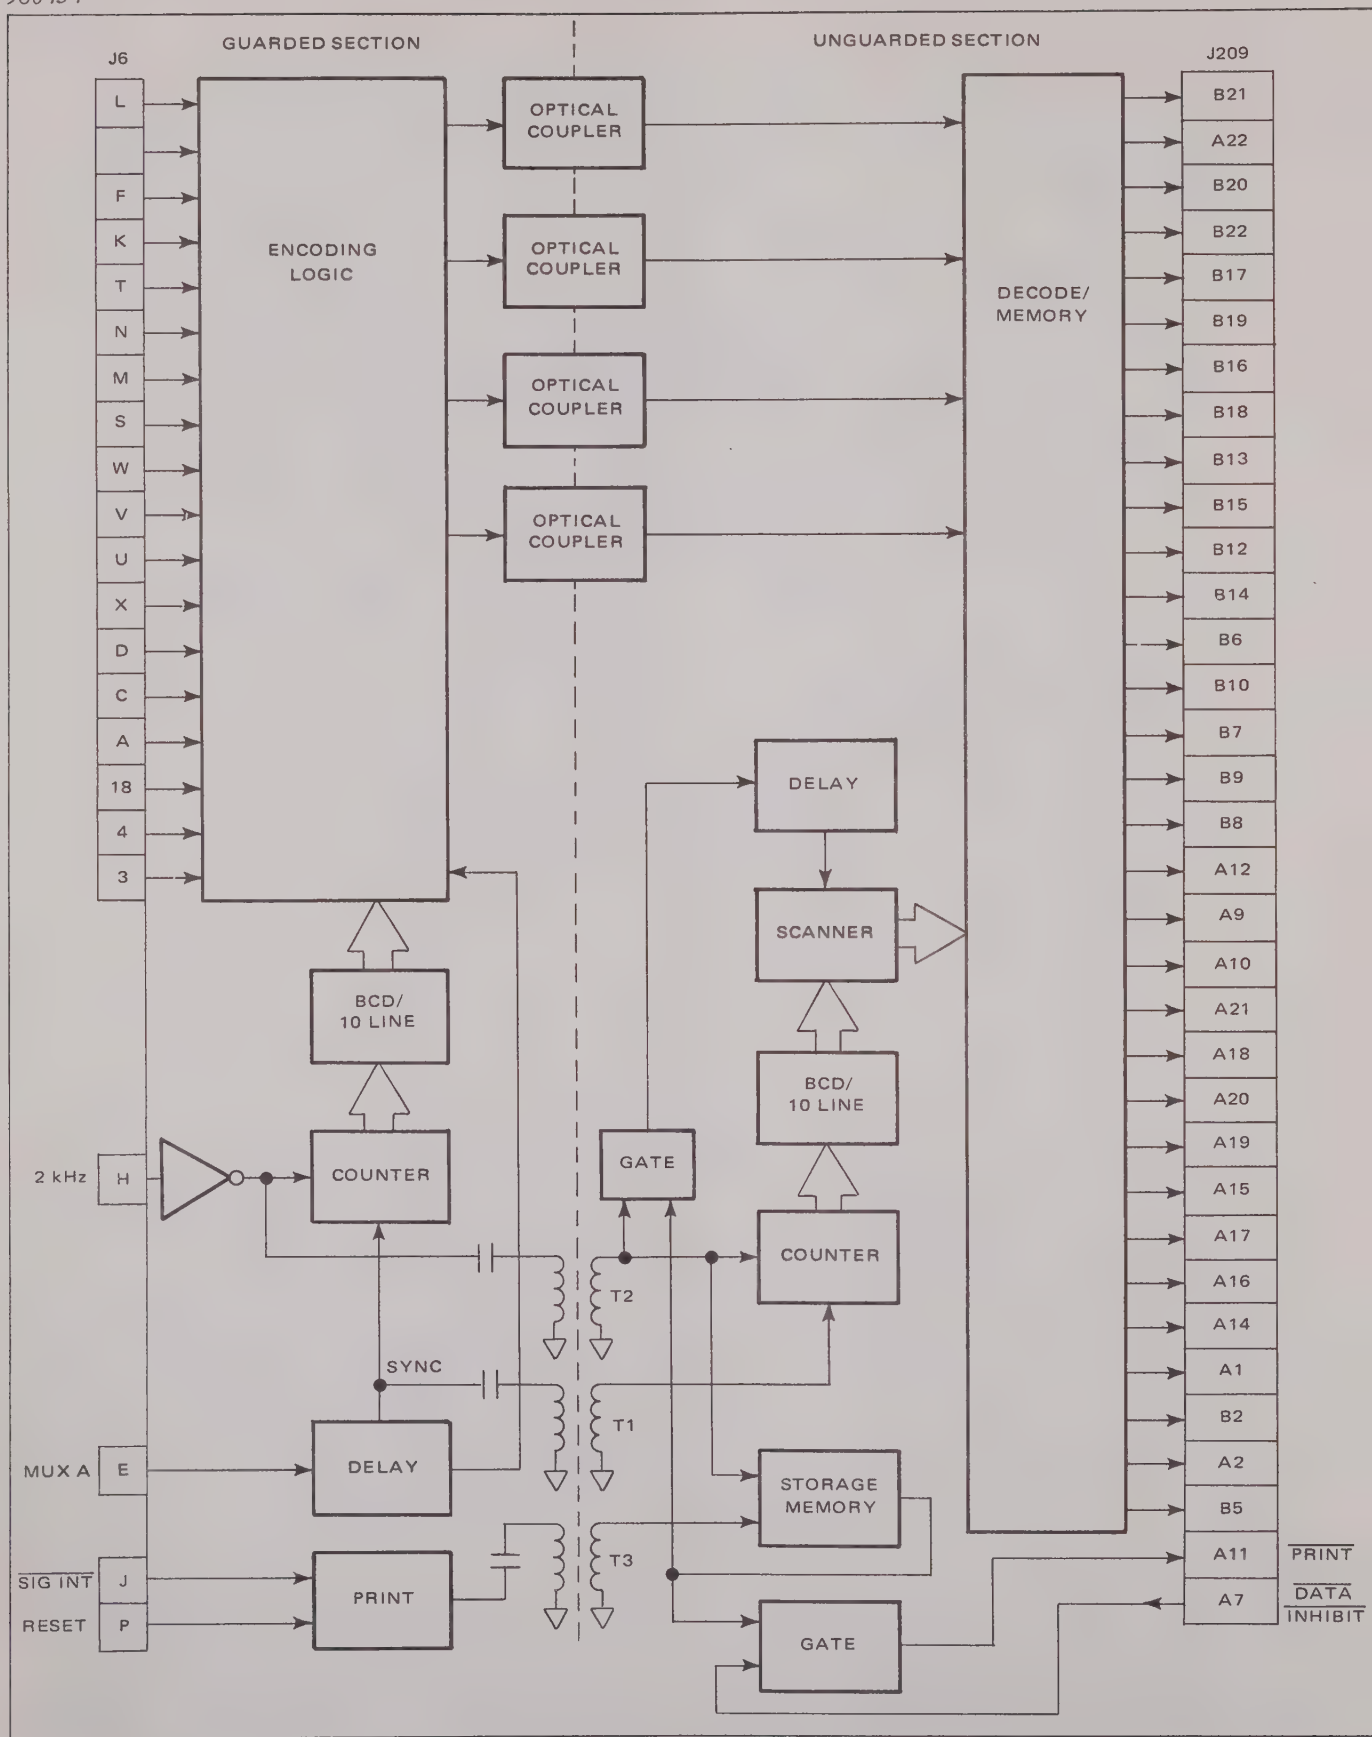

Figure 4.11 - Data Output Circuitry
4.62 The isolated BCD output uses the multiplexing technique to transfer the data generated in the guarded portion of the instrument to the output section in the unguarded portion. The multiplexing permits the numeric data, function, range, and polarity to be transmitted through four optical-couplers to eight storage latches in the output area as shown in the block diagram of figure 4.11. The print command, Direct Command and Delayed Command are isolated from the guarded section by means of isolation transformers.